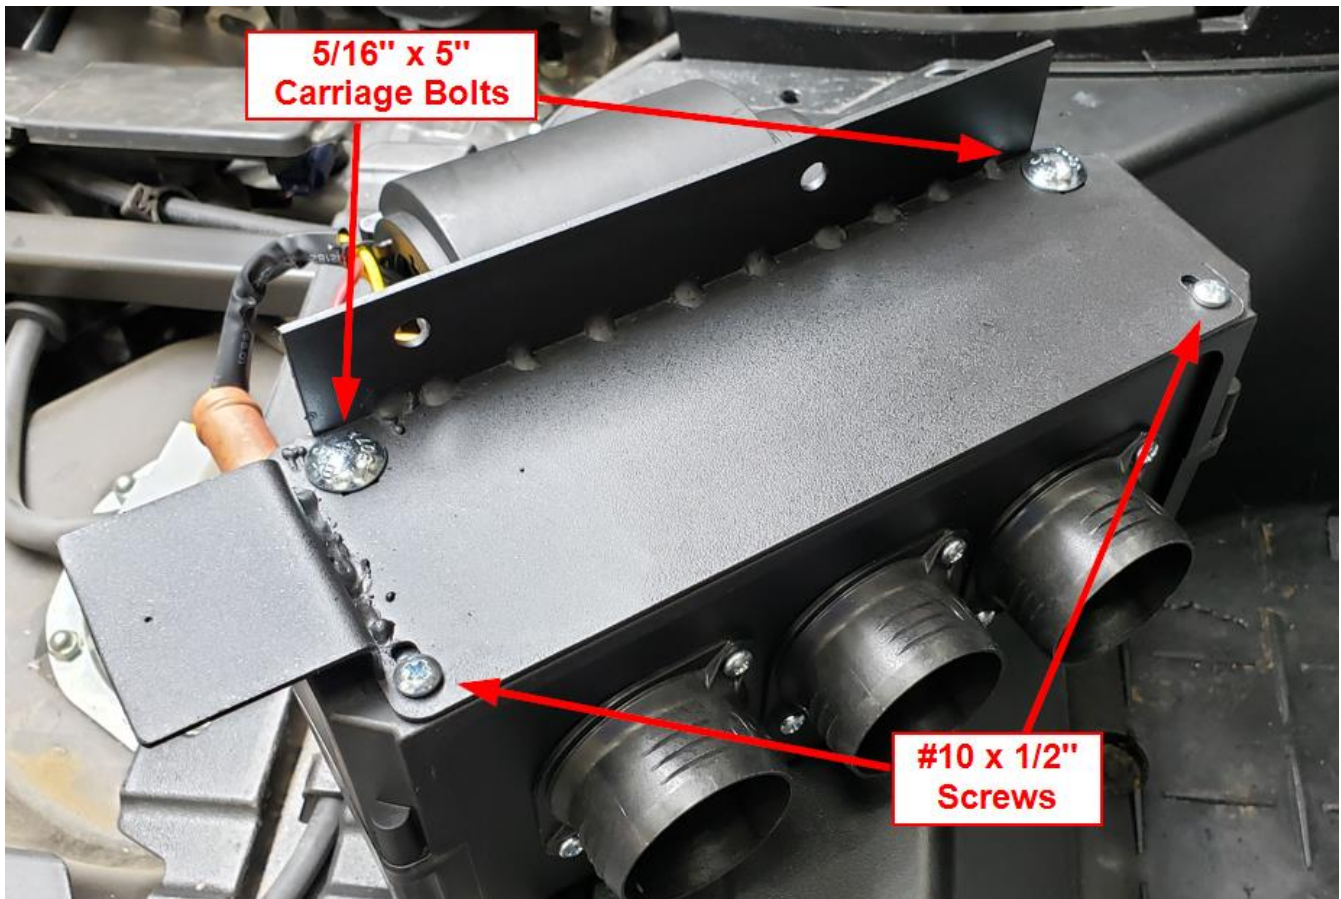

Figure 31
- c. Attach the #1145 Main Heater Bracket to the heater unit using the (2) 5/16" x 5" Carriage bolts, 5/16" Serrated Flange Nuts and (2) #10 x 1/2" Screws as shown in Figure 31.